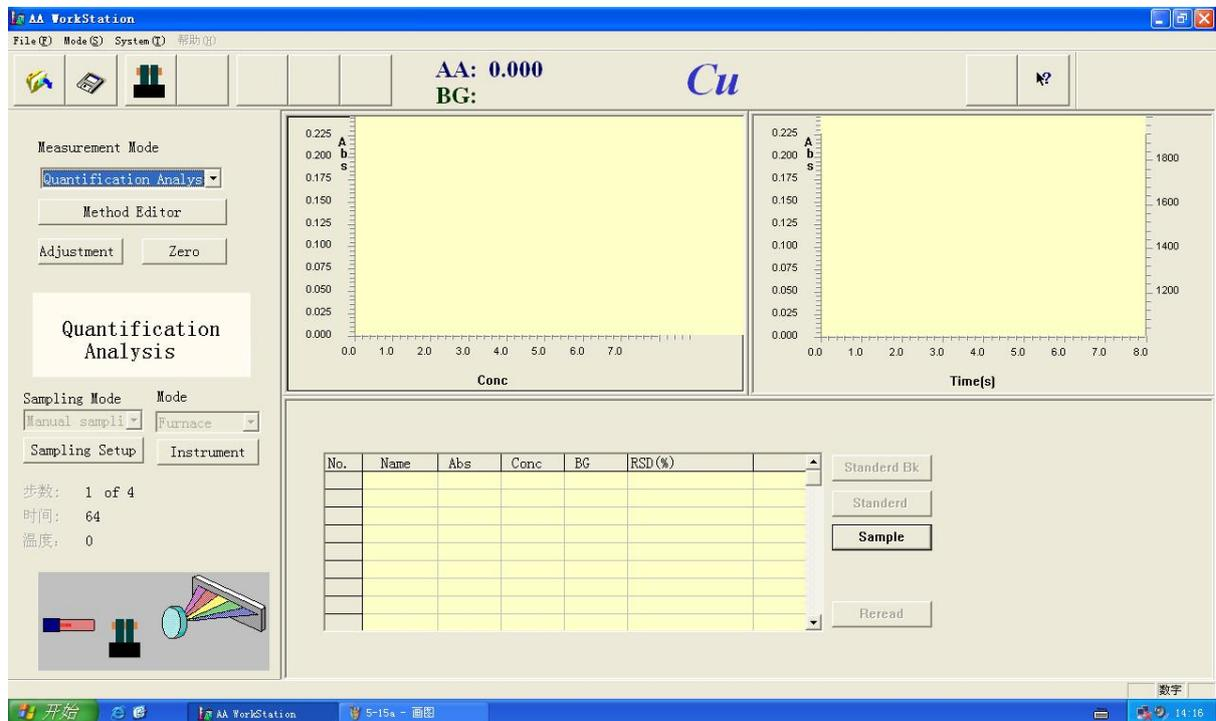

Figure 5-30
3. Figure 5-30, select the "quantification analysis" from the "Measurement Mode"